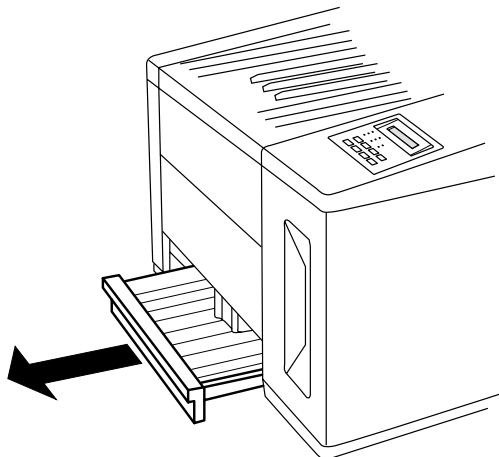

Fig. 9.1 Remove the Paper Cassette
1. Pull out the media cassette (fig. 9.1), and check the media-cassette slot. If media is there, skip to step 4. If not, continue to step 2.